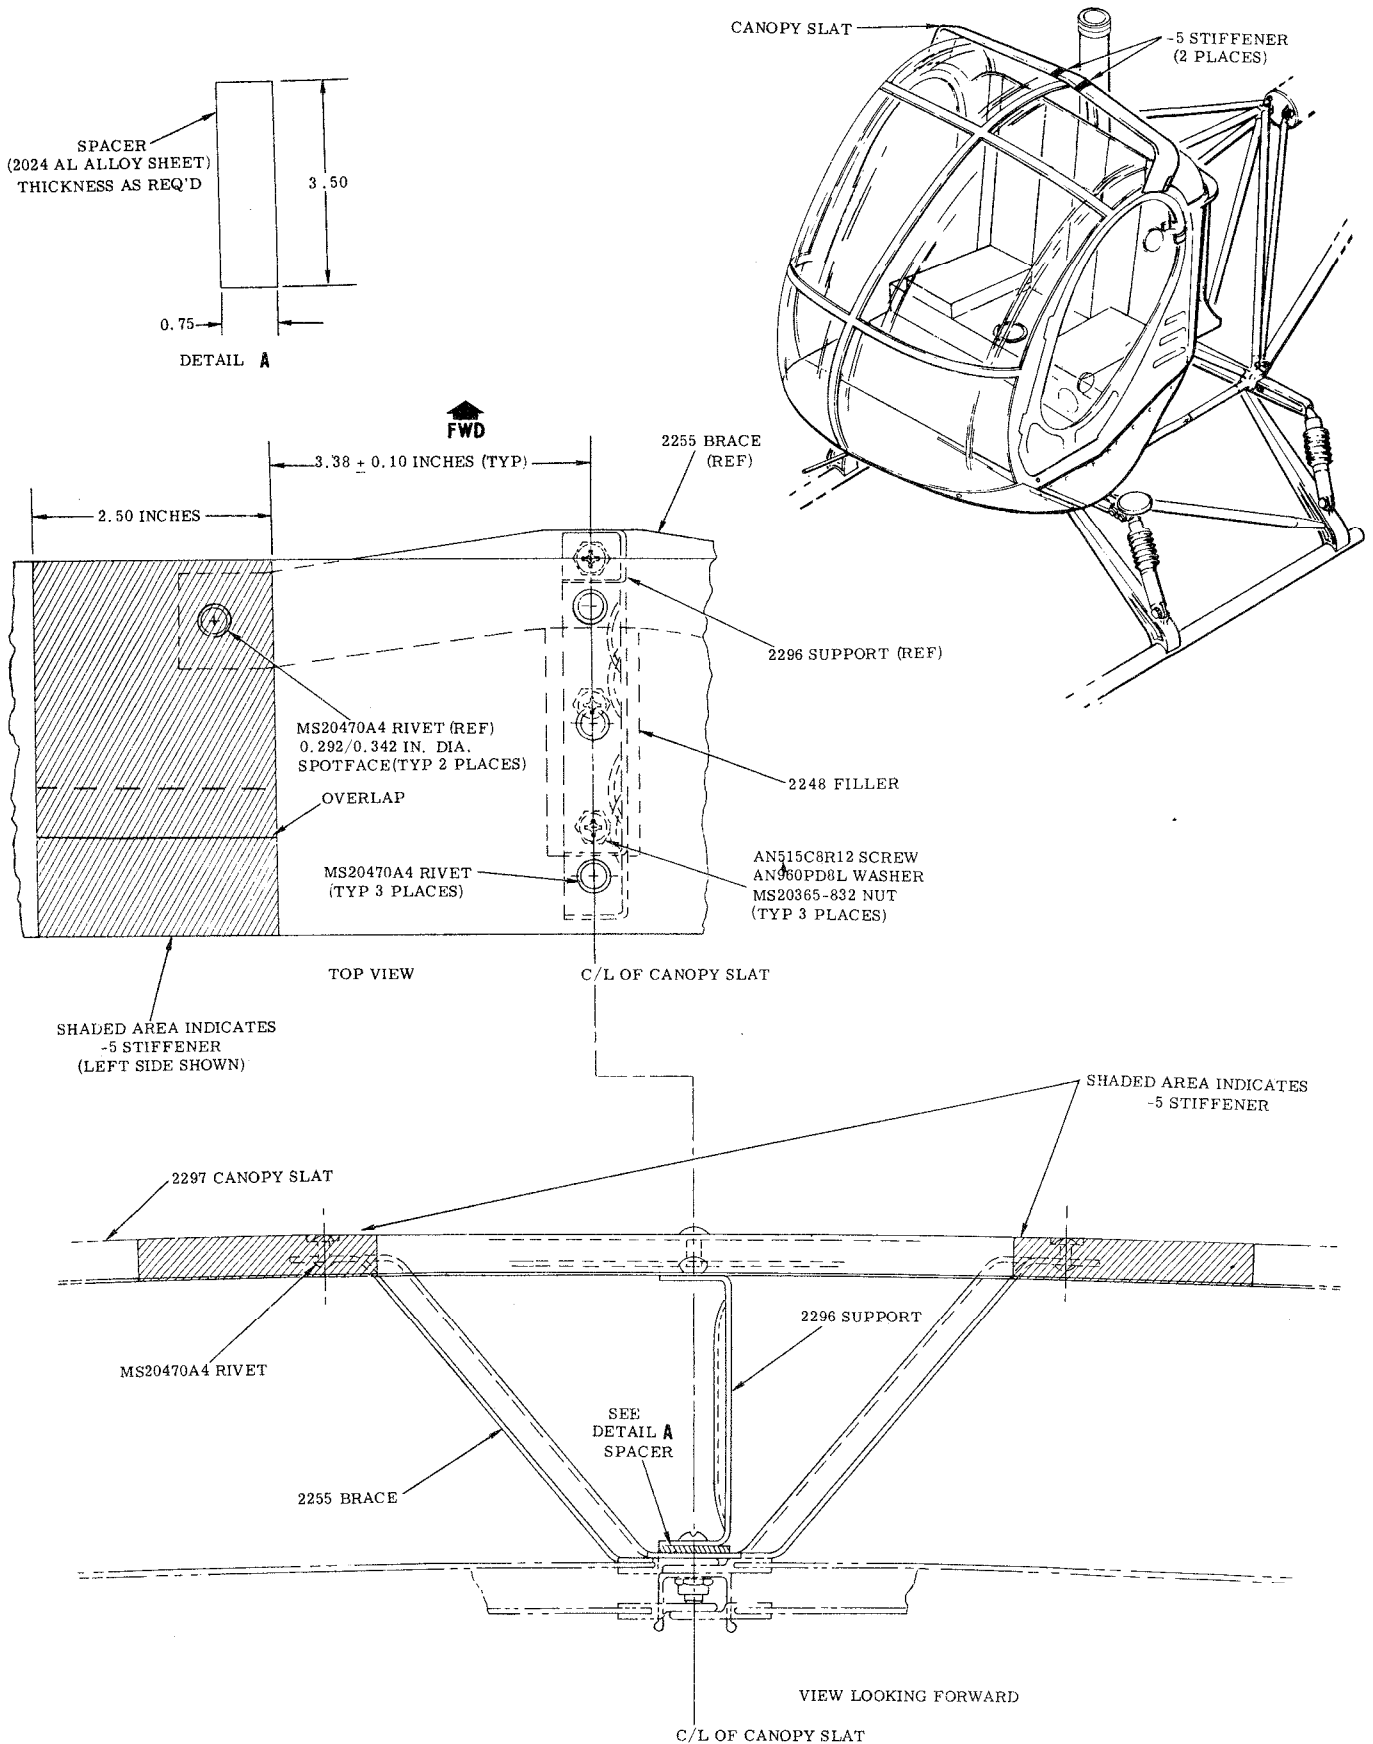

FIGURE 1. INSTALLATION - STIFFENER, CANOPY SLAT
- b. Place canopy slat on bench; drill out two rivets securing P/N 269A2255 brace to canopy slat. (Refer to Figure 1)
Faying surfaces are denoted by shaded areas in Figure 1.
- h. Position initial fiberglass strips on canopy slat with overlap as shown in Figure 1. Press firmly into place.
Fabricate spacer per dimensions shown in Figure 1.